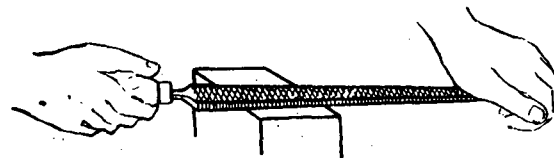

Fig. 1
The machine fitter often files a flat surface so as to obtain very precise dimensions when he repairs or adjusts machinery (Fig. 1).
- a) Hold the file in the way that Fig. 1 suggests.